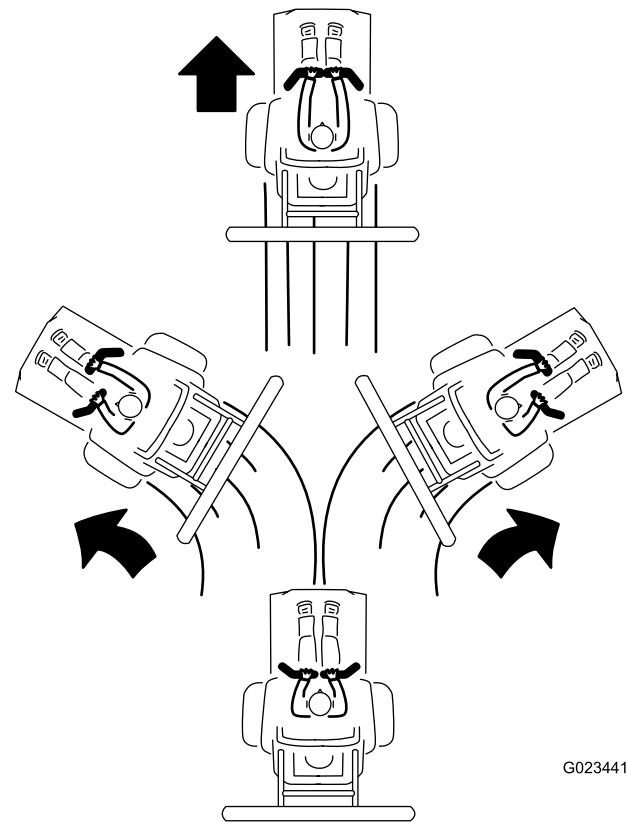

Figure 19
3. To go forward, slowly push the control handles forward (Figure 19).